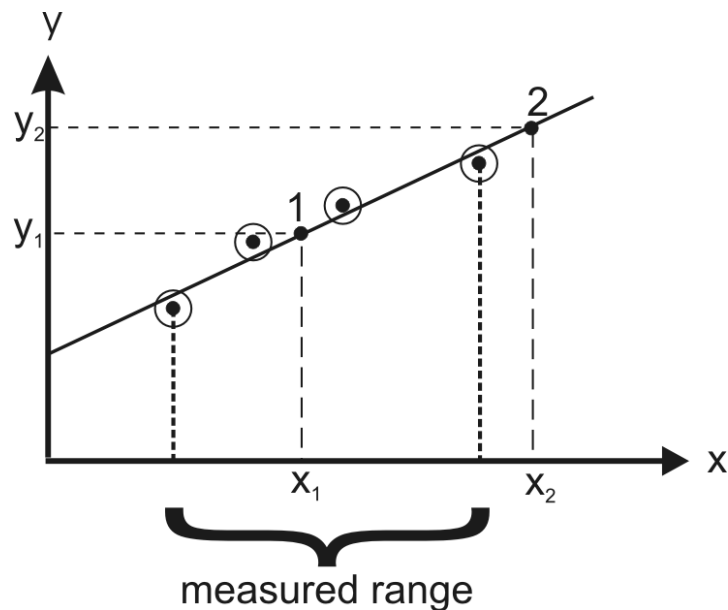

Fig.3 Interpolation and extrapolation.
10. A graph can be used to read off values for the dependent variable at values of the independent variable at which no measurement were made, like at x_1 and x_2 in **figure 3**.